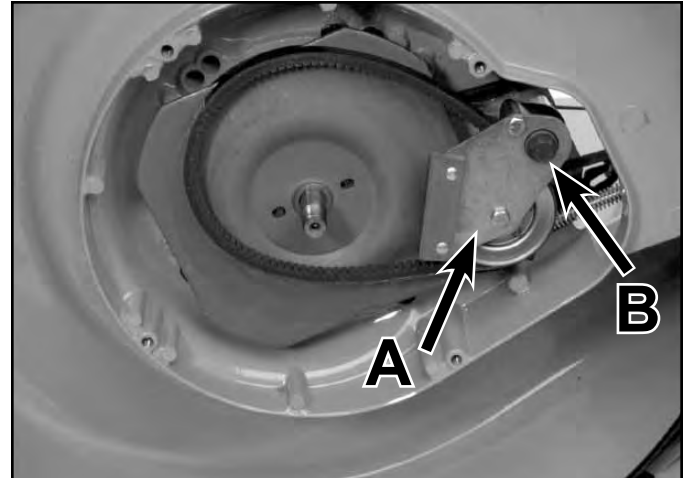

Fig 207
3. Loosely secure the brake plate, complete with brake pad, to the brake lever and brake hub as shown in Figure 207. Note that the bolt should go through the brake plate first. Secure with a nylon locknut but do not tighten at this time. This will allow proper alignment of the idler pulley later.
4. Install an idler hub into each side of the idler pulley bearing, then slip the belt onto the idler pulley. Slip the entire assembly between the brake plate and brake lever. Secure the carriage bolt and nylon locknut as shown in Figure 207.